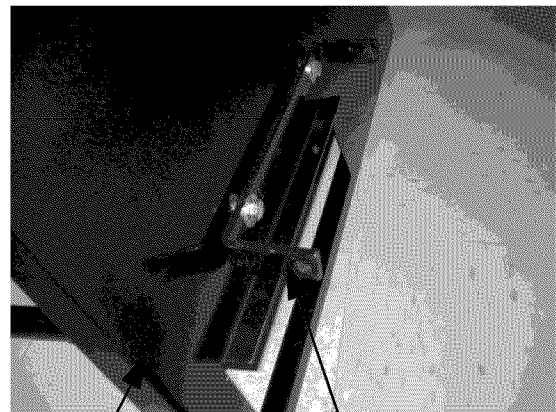

Figure 6
5. Install Chute Mounting Bracket [G] to Backing Plate [F] using (2) 3/8-16 x 1.00 bolts [P], (4) 3/8 Flat Washers [Q] and (2) 3/8-16 Nylock nuts [R] as shown below in Figure 6.